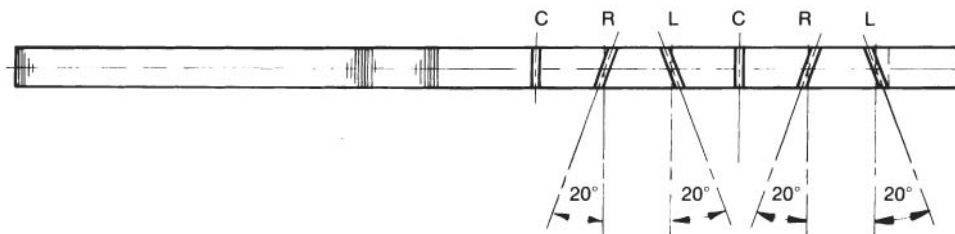

Figure 8.25 Angles of cuts in an original Medeco key.
In addition to the dimensions above, each cut in a Medeco key may be cut with any one of three angular rotations. These rotations are designated as right (R), left (L), or center (C). When you look into the cuts of a Medeco key as illustrated in Figure 8.25, concentrating on the flats of the cut, you will notice that flats that are positioned perpendicular to the blade of the key are